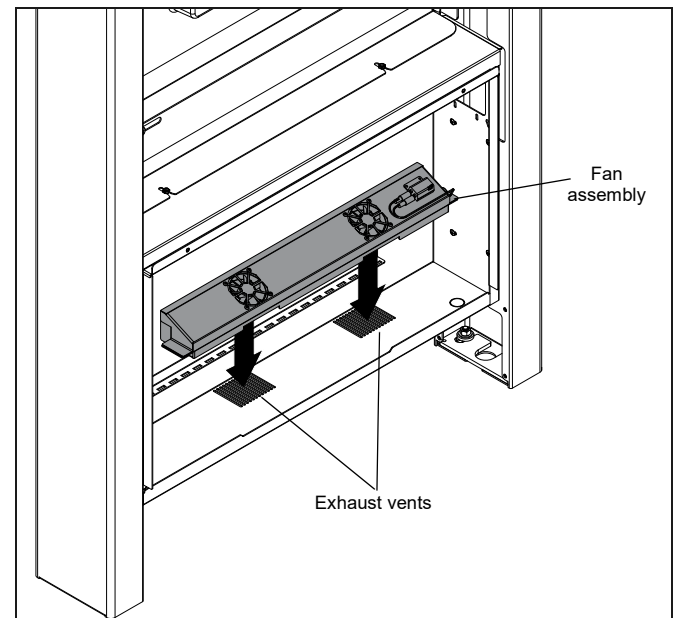

Figure 12
3. Attach assembled fan assembly/filter bracket to the bottom of the enclosed storage area. (See Figure 12)